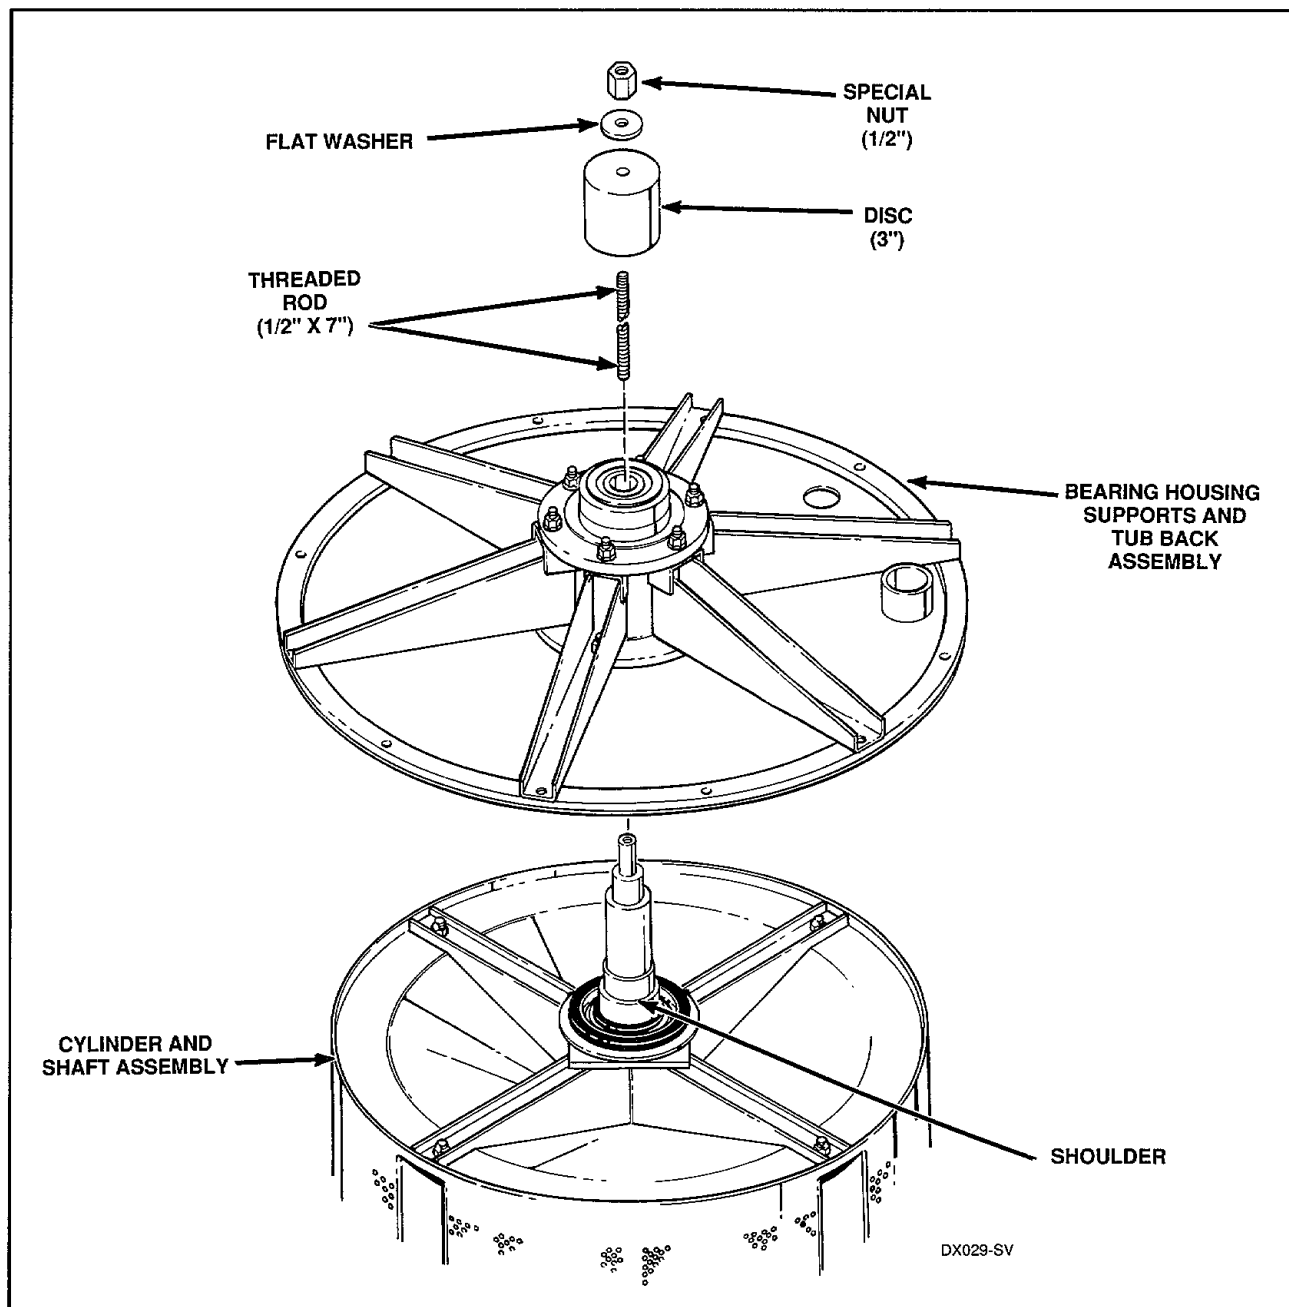

Figure 32
- a. Carefully place the complete tub back, bearing housing and supports onto cylinder shaft, *Figure 32*.
- b. Screw the $\frac{1}{2}$ x 7 inch threaded rod into end of cylinder shaft, *Figure 32*.
- c. Place the 3 inch disc over the threaded rod with the small hole in the disc at the top, *Figure 32*.
- d. Place the $\frac{1}{2}$ inch flat washer and special nut on the threaded rod and snug nut against the flat washer on top of the 3 inch disc, *Figure 32*.
- e. Turn the special nut clockwise forcing the complete tub back, bearing housing and supports onto the cylinder shaft until the front bearing is against the shoulder on the shaft, *Figure 32*.